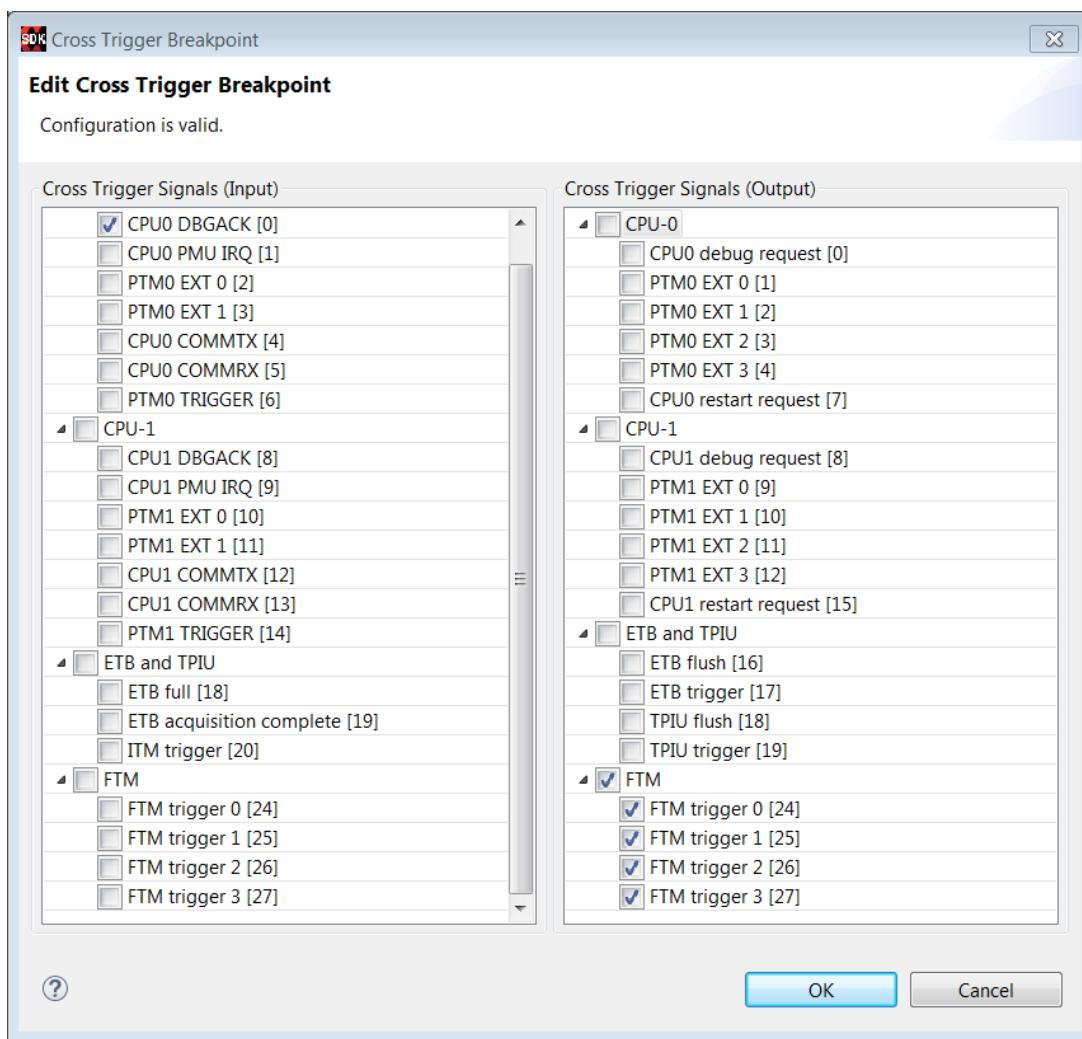

Figure 64: Setting Cross-Trigger Breakpoints for Processor to Fabric Trigger
14. In the Create Cross Trigger Breakpoint page, select the options as shown in Figure 64.